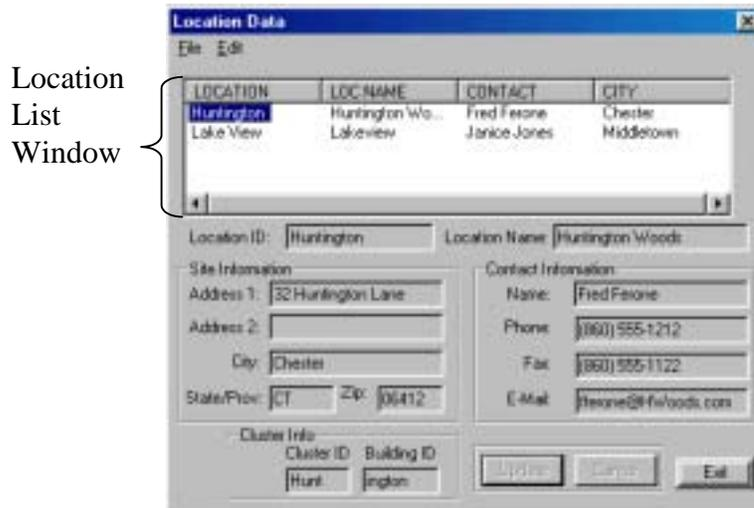

Figure 3.4 Completed Location Setup
- When completed, the Location List Window in the Location Data dialog box should include the two properties (Figure 3.4).